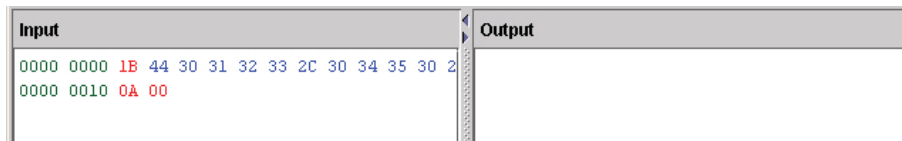

Figure 165 Hex Equivalents of LF and NUL
44. Type **0A00**. To enter the hex equivalent of LF and NUL. See Figure 165.